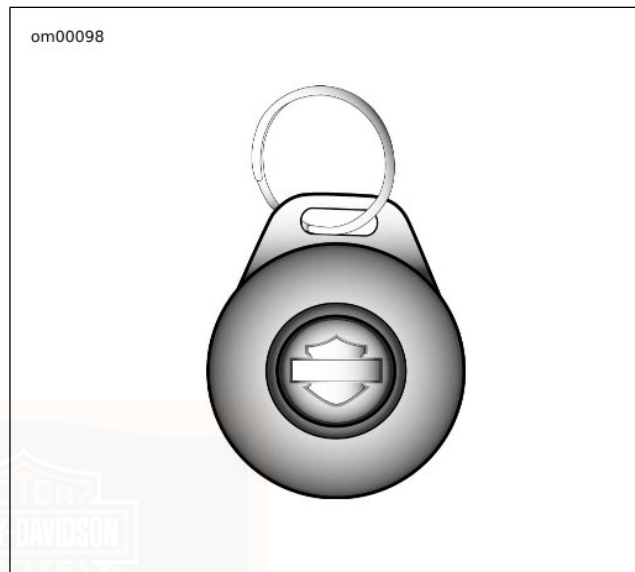

Figure 30. Key Fob
- **Remote-arming:** See Figure 30. Owners may enable security alarm and immobilization functions with a remote, personally carried transmitter. This transmitter is referred to as a key fob within this document.
See Figure 30. Hold down the key fob button until the system responds with two turn signal flashes and two chirps from optional siren. To assign a key fob to a motorcycle, refer to Table 21.
- **Remote disarming:** See Figure 30. Owners may disable security alarm and immobilization functions with a remote, personally carried transmitter. This transmitter is referred to as a key fob within this document.
See Figure 30. Quickly press the key fob button twice. The system will respond with one turn signal flash.